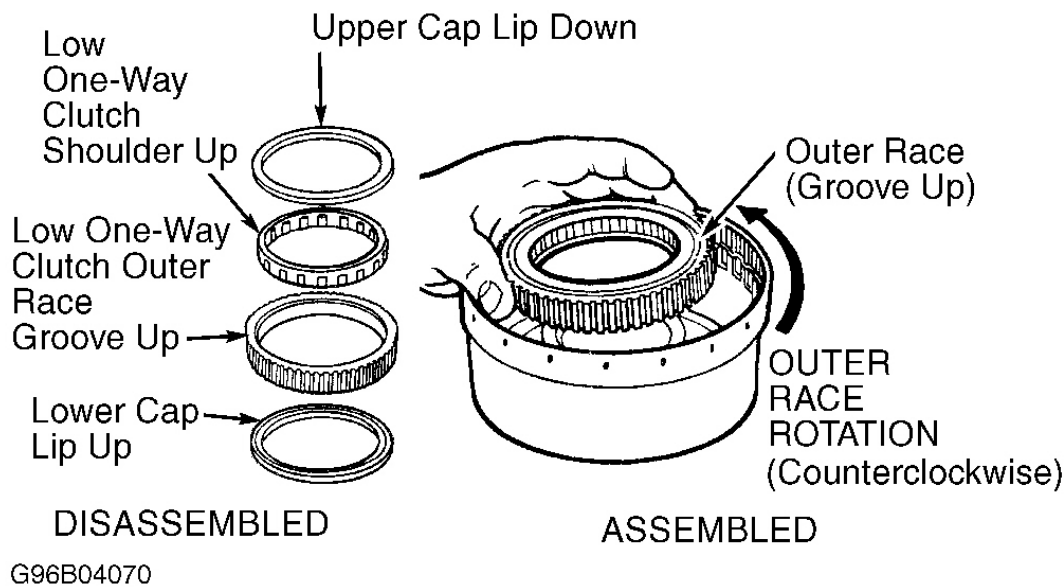

Fig. 27: Identifying Low One-Way Clutch Components & Rotation
2. Turn assembly onto direct/intermediate cylinder hub assembly and remove overdrive drum and low one-way clutch assembly from inner race of overdrive drum. Disassemble low one-way clutch to clean and inspect. See **Fig. 27**. Reassemble low one-way clutch and ensure outer race only rotates counterclockwise.